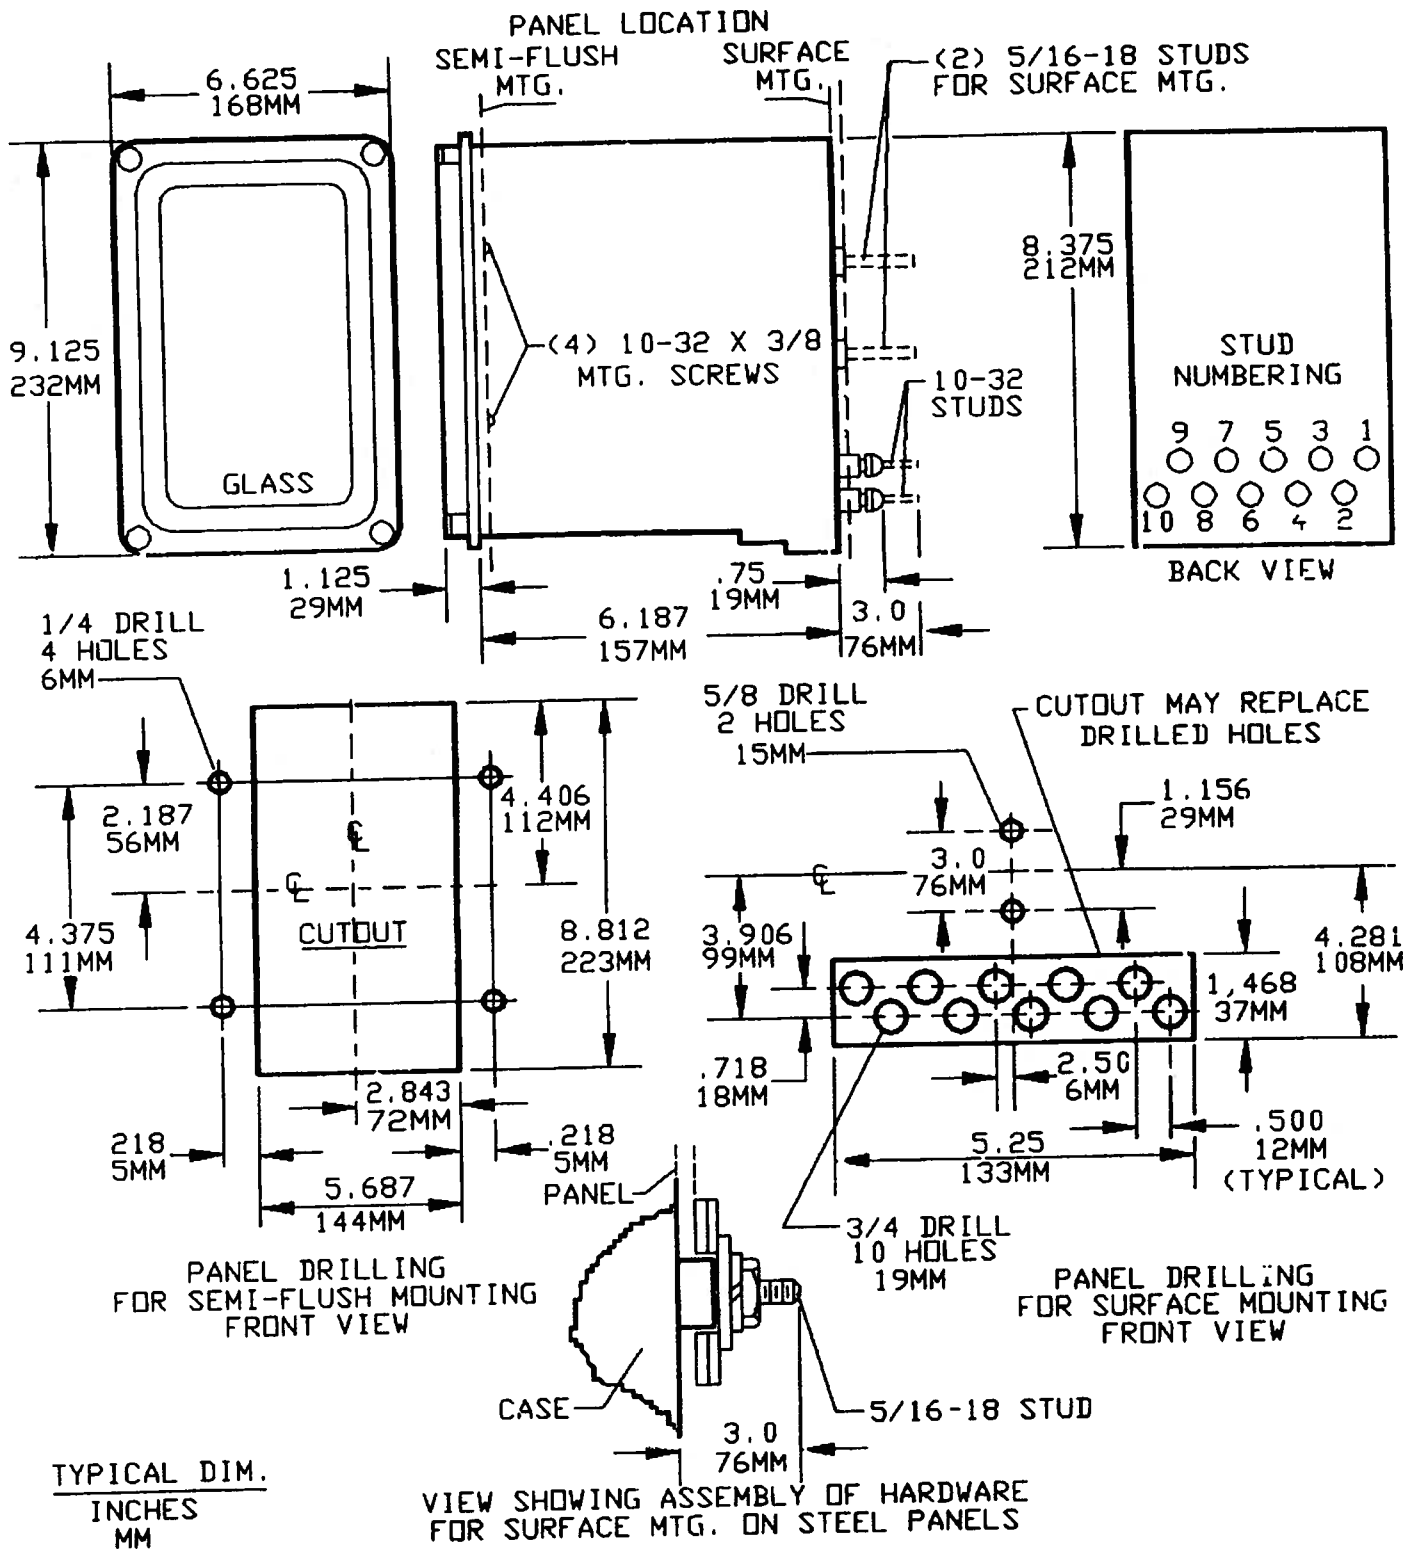

Fig. 20 (K-6209271 [8]) Outline and Panel Drilling Dimensions for Relay Types IAC Relays
* The relay should be mounted on a vertical surface. The outline and panel diagram is shown in Fig. 20.